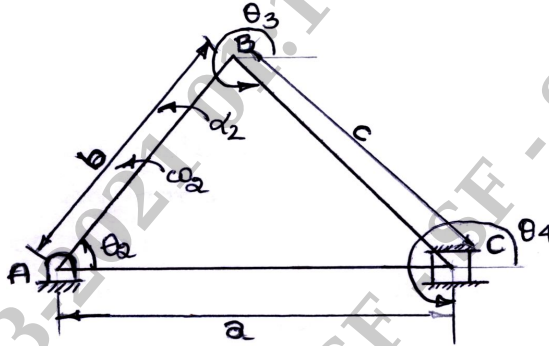

Fig.Q.5(b)
- b. For the mechanism shown in Fig.Q.5(b) includes a crank of 50mm length and the connecting rod of 200mm length. The crank speed is constant at 300rpm. Determine the angular velocity and angular acceleration of the connecting rod by using complex algebra method, when the crank angle is 30° . (12 Marks)